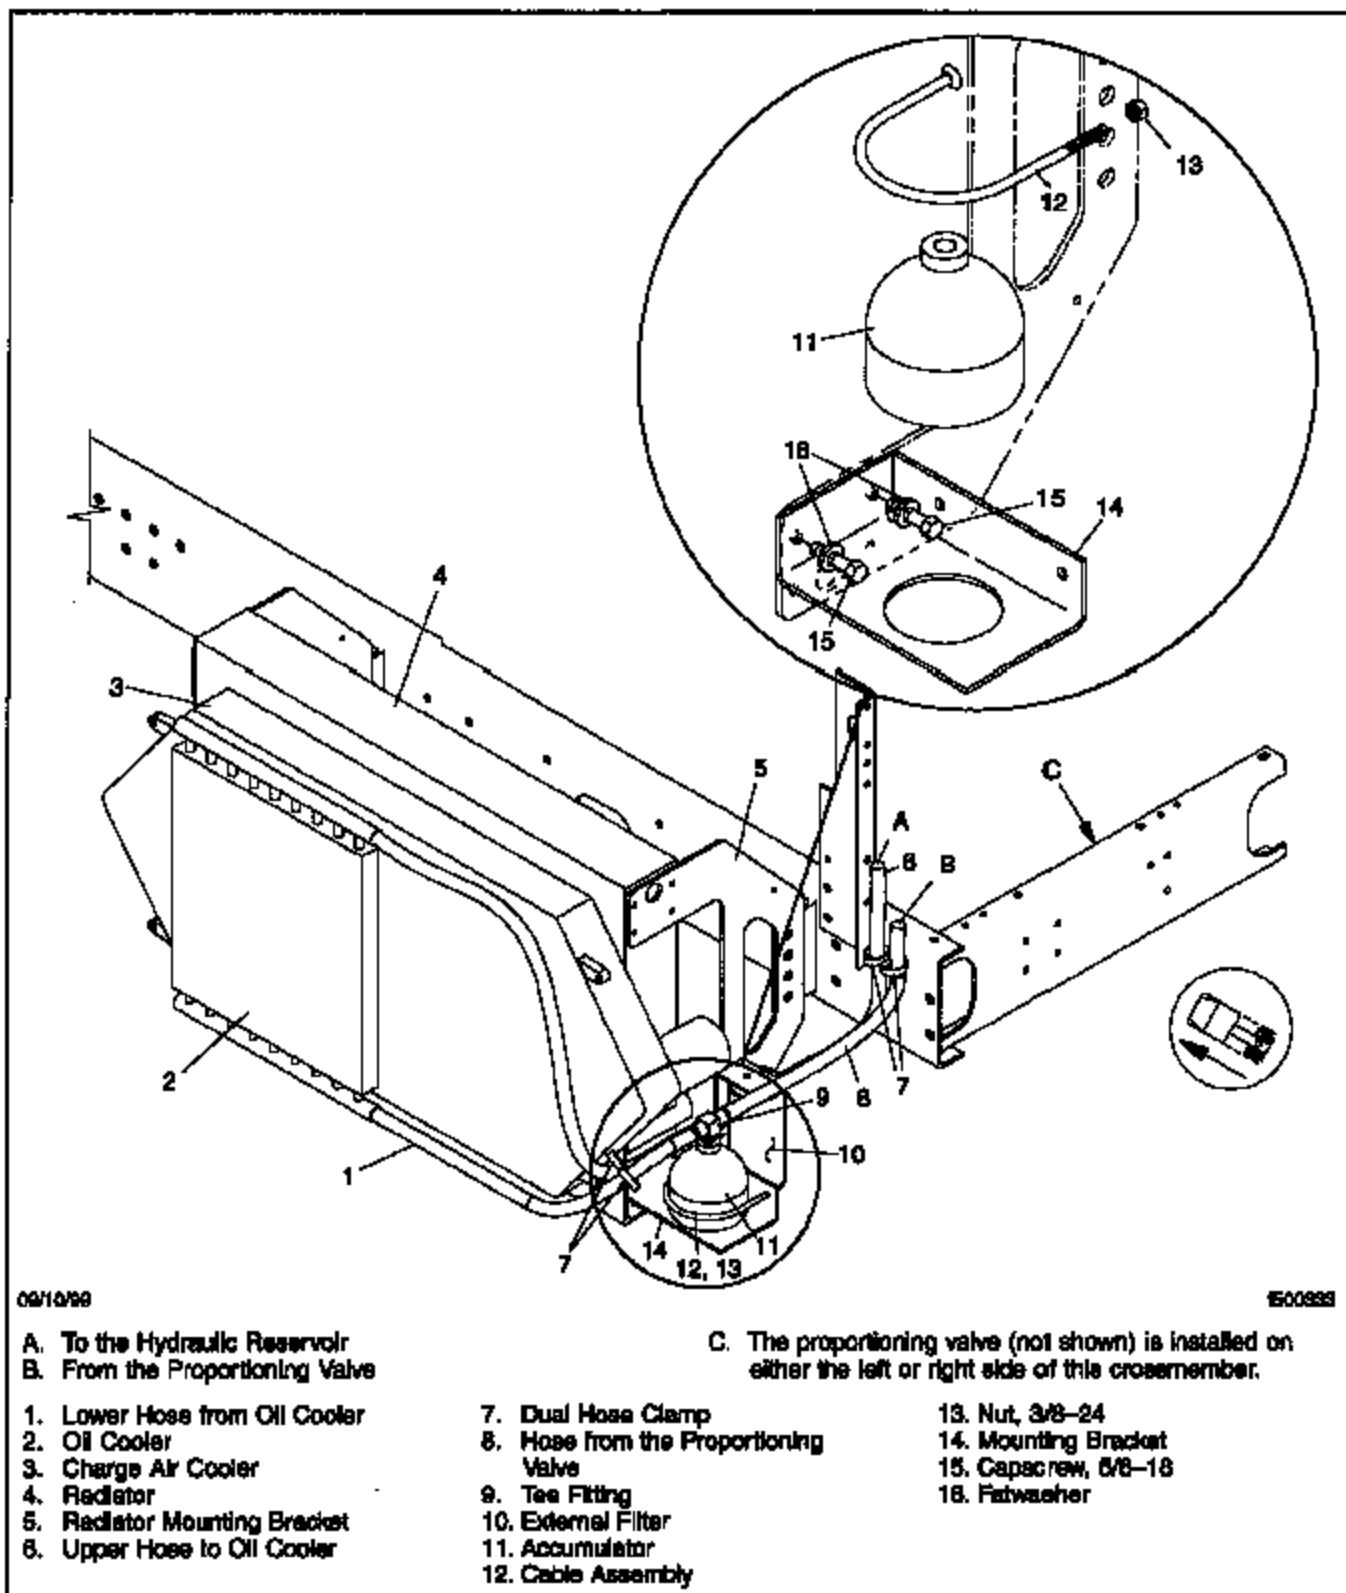

Fig. 1, Installation of Hydraulic System Accumulator
5. Disconnect and remove the hose connecting the proportioning valve to the lower end of the oil cooler. See Fig. 1.
9. Seat the accumulator onto the mounting bracket. See Fig. 1.
10. Using the cable assembly and the 3/8-24 nut, secure the accumulator to the bracket. See Fig. 1. Tighten the nut 30 lbf-ft (40 N-m).
13. Using two dual hose clamps, secure the hoses together. See Fig. 1.
If equipped with a 12-quart metal reservoir, check for an external filter near the oil cooler, in the hydraulic hose running from the top of the oil cooler to the reservoir. See Fig. 1.